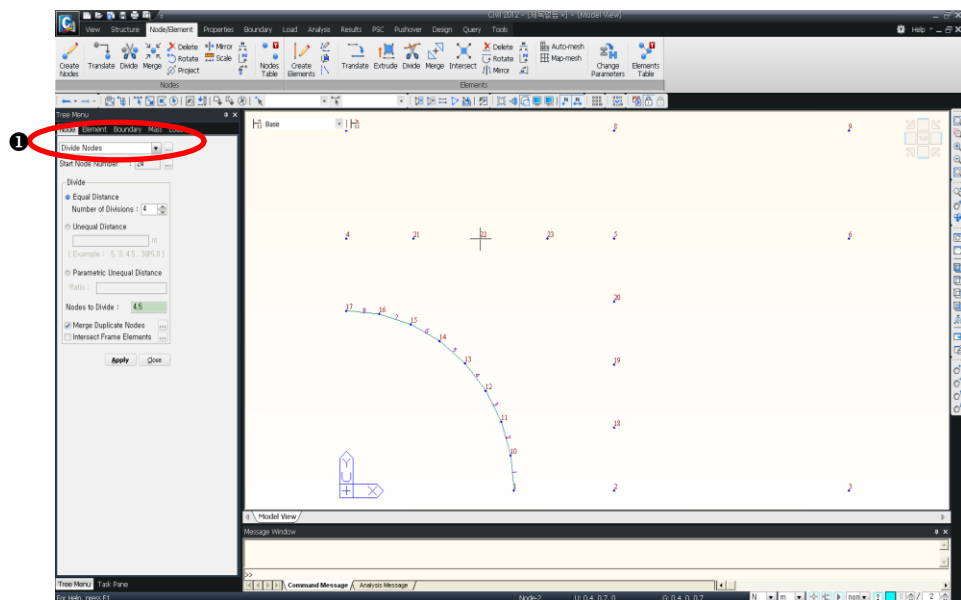

Figure 3.4 Division of nodes to create Plate Elements
2. Select the **Node** tab in the Tree Menu (Fig.3.4-①).